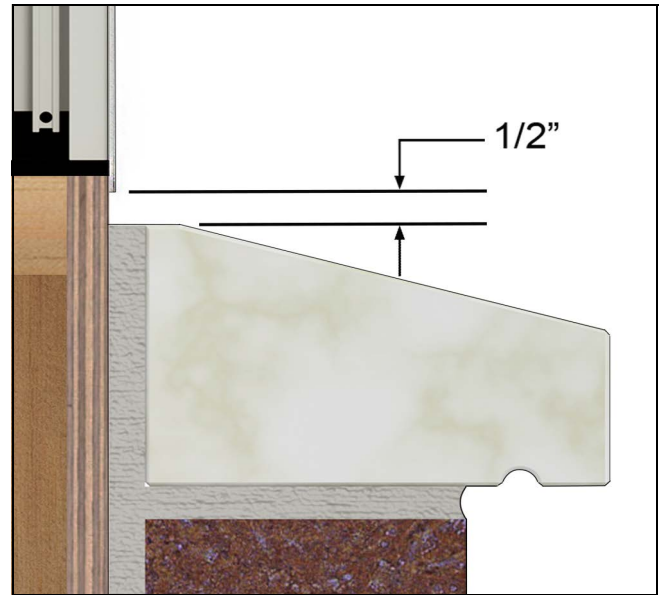

Figure 4
5. On installations with brick veneer (masonry), verify there is at least $\frac{1}{2}$ " between bottom of window sill (or eventual placement of the window) and the top row of brick to avoid “brick bind”. See Figure 4.